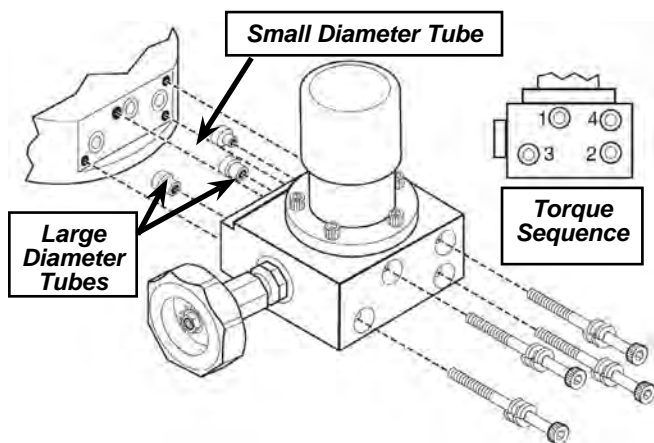

Figure 19
1. Install the four screws and washers into the manifold (Figure 19).
- Referring to Figure 19 for the proper torque sequence, torque each screw to 50 in/lbs.